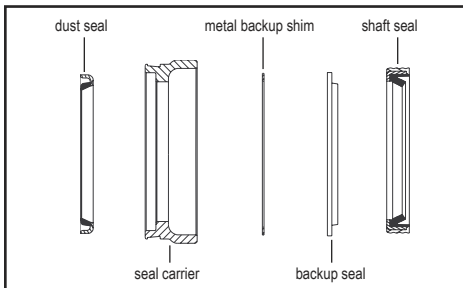
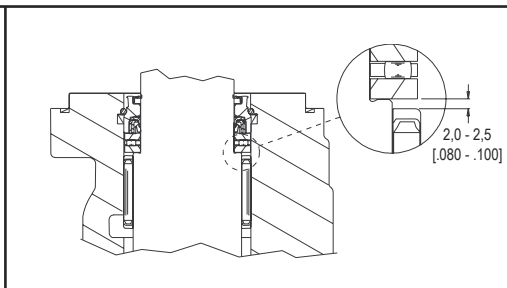

FIGURE 1
FIGURE 2
- F)** Using Figure 1 for correct orientation, install backup shim (5), Teflon backup seal (6) and shaft seal (7) into the seal carrier (12). Place side of seal carrier (12) with seal down on a flat surface and press down to seat seals in seal carrier (12). Install the dust seal (1) in the opposite side of the seal carrier (12) using Figure 1 for correct seal lip orientation. Make certain that shaft seal and dust seal are coated with oil to provide start-up lubrication.
- G)** With the flange side of the housing face up, place one thrust washer (13), then thrust bearing (14) and second thrust washer (13) against roller bearing in housing. Install the seal carrier assembly (5-7, 12) into the housing (16) making sure that the large O.D. side faces down. Install the high pressure seal (4) into the housing groove. To install the metal backup shim (3), slightly squeeze the shim between the thumb and forefinger to bow the shim. While maintaining the bow, start the shim into the groove and use a small screwdriver to push the shim into the groove. Install the wire ring (2) into the groove making sure that the ends are butted.
- I)** With output end of shaft facing up, insert shaft into housing and press seal carrier down until it is seated against the wire ring in the front groove. Remove shaft from housing. There should be 2,0 - 2,5 [.080 - .100] clearance between the rear-most thrust washer (13) and the front shaft bearing (15) (See Figure 2). If the front shaft bearing is against the thrust washer, it must be pushed back into the housing to provide the necessary clearance.
- J)** Mount the housing in a vise with the mounting flange side facing down. If a 1-1/4” or 32mm shaft is being installed, liberally coat the output end of the shaft with STP®. (Make sure area around key slot is thoroughly coated before installing shaft into housing). With the output end of the shaft facing down, insert into the housing. Place the remaining thrust washer (13) against the shaft end followed by the remaining thrust bearing (14).
- K)** Place a body seal (8) into the groove in the rear face of the housing. Insert the drive link (18) into the shaft with the tapered end facing up. Place the wear plate (17) over the drive link (18) and onto the housing making sure to use the alignment marks as a guide to assure correct orientation of the wear plate (and the remaining components).
- L)** Place a body seal (8) into the groove in the face of the rotor assembly (19). With the seal side of the rotor assembly (19) facing the wear plate, line up the splines of the drive link (18) and the rotor assembly (19) and lower the rotor assembly onto the housing (16).